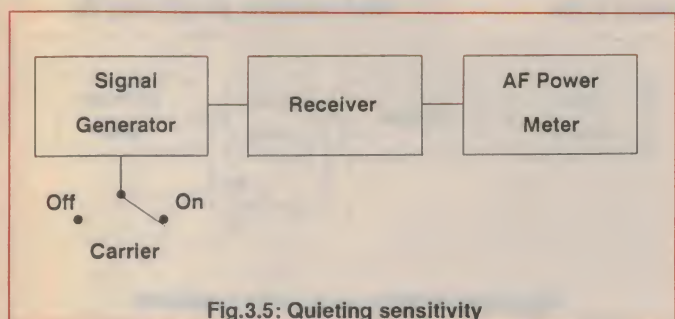

Fig.3.5: Quieting sensitivity
- i) Connect the equipment as shown in Fig.3.5.